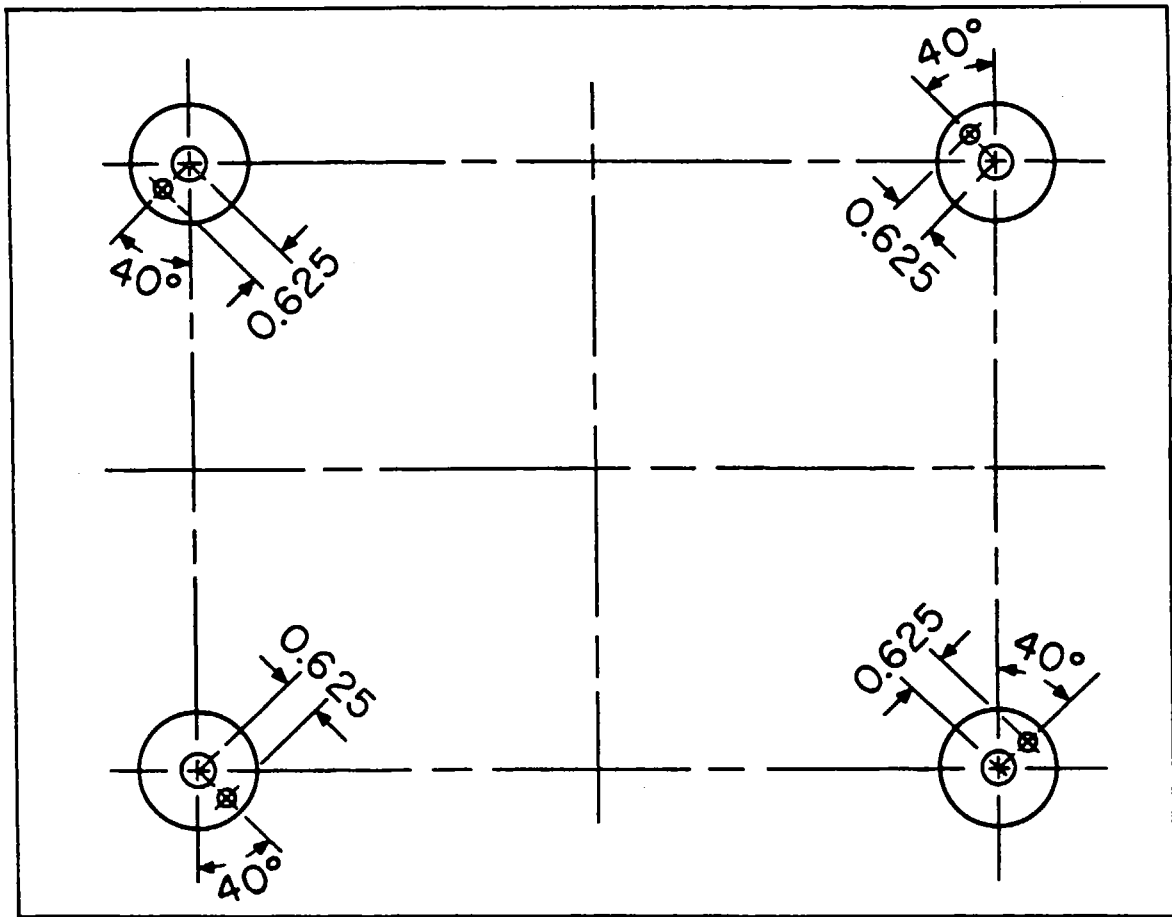

Figure 8-6. Engine Lord Mount Locating Pin Diagram
g. Repeat the procedures described in steps "a" through "f", above, at the remaining three attaching points. The location of the shock mount pin at each of the four attaching points is illustrated in Figure 8-6. Do not mix the newly created assemblies.